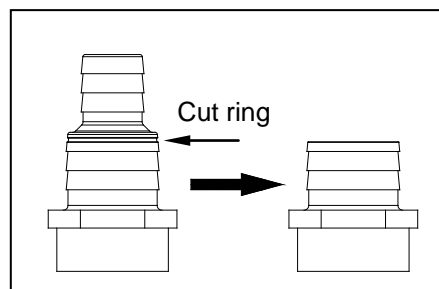

Fig. 9
9. For maximum water flow, it is recommended that the largest tubing size for your pump is used. If using 1 in. ID tubing, proceed to step 10. If using 1-1/2 in. ID tubing, cut the adapter as shown using a hacksaw. Fig. 9